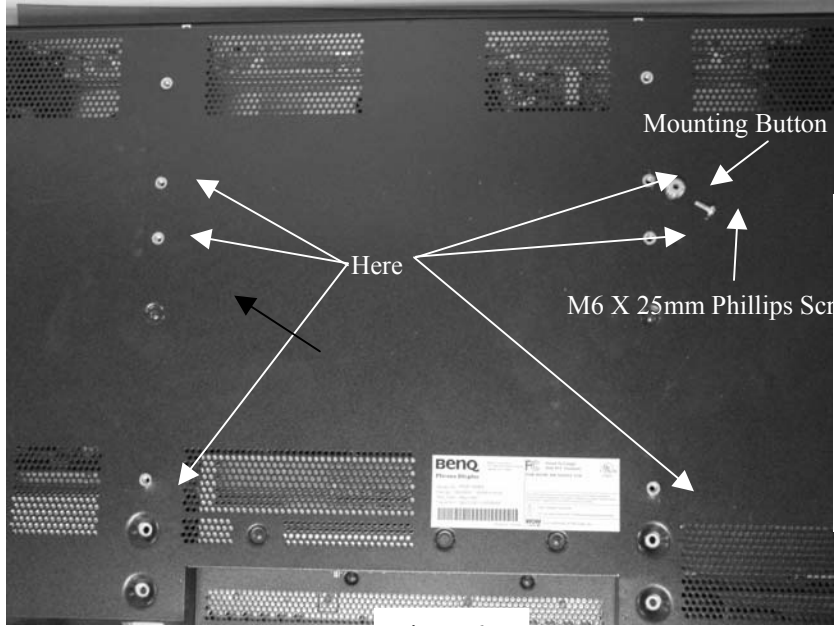

Figure 6
1. Attach six mounting buttons to display using six M6 x 25mm Phillips head screws provided (see Figure 6).